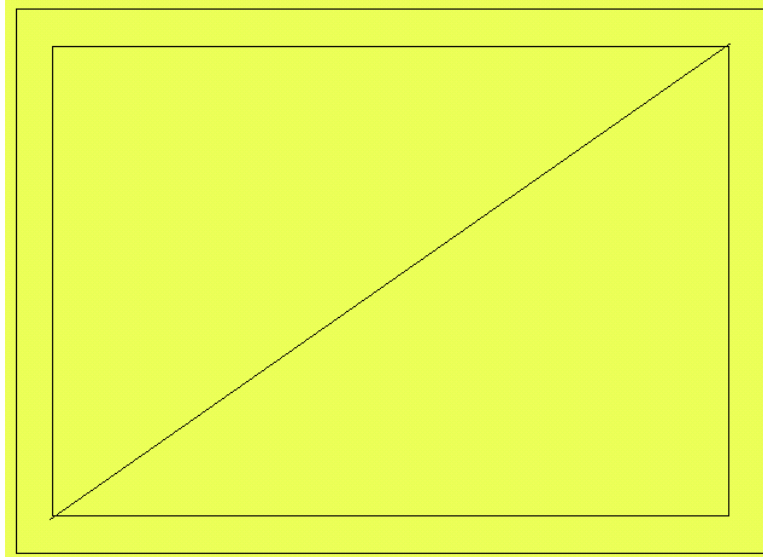

Figure 4-43
10. Type **16.6,10.6 (410,287)** and click <Enter>. Select *View/Redraw* to refresh the image. The smaller rectangle represents the inner boundary of the fill and it will be the border line for the template. See Figure 4-43.